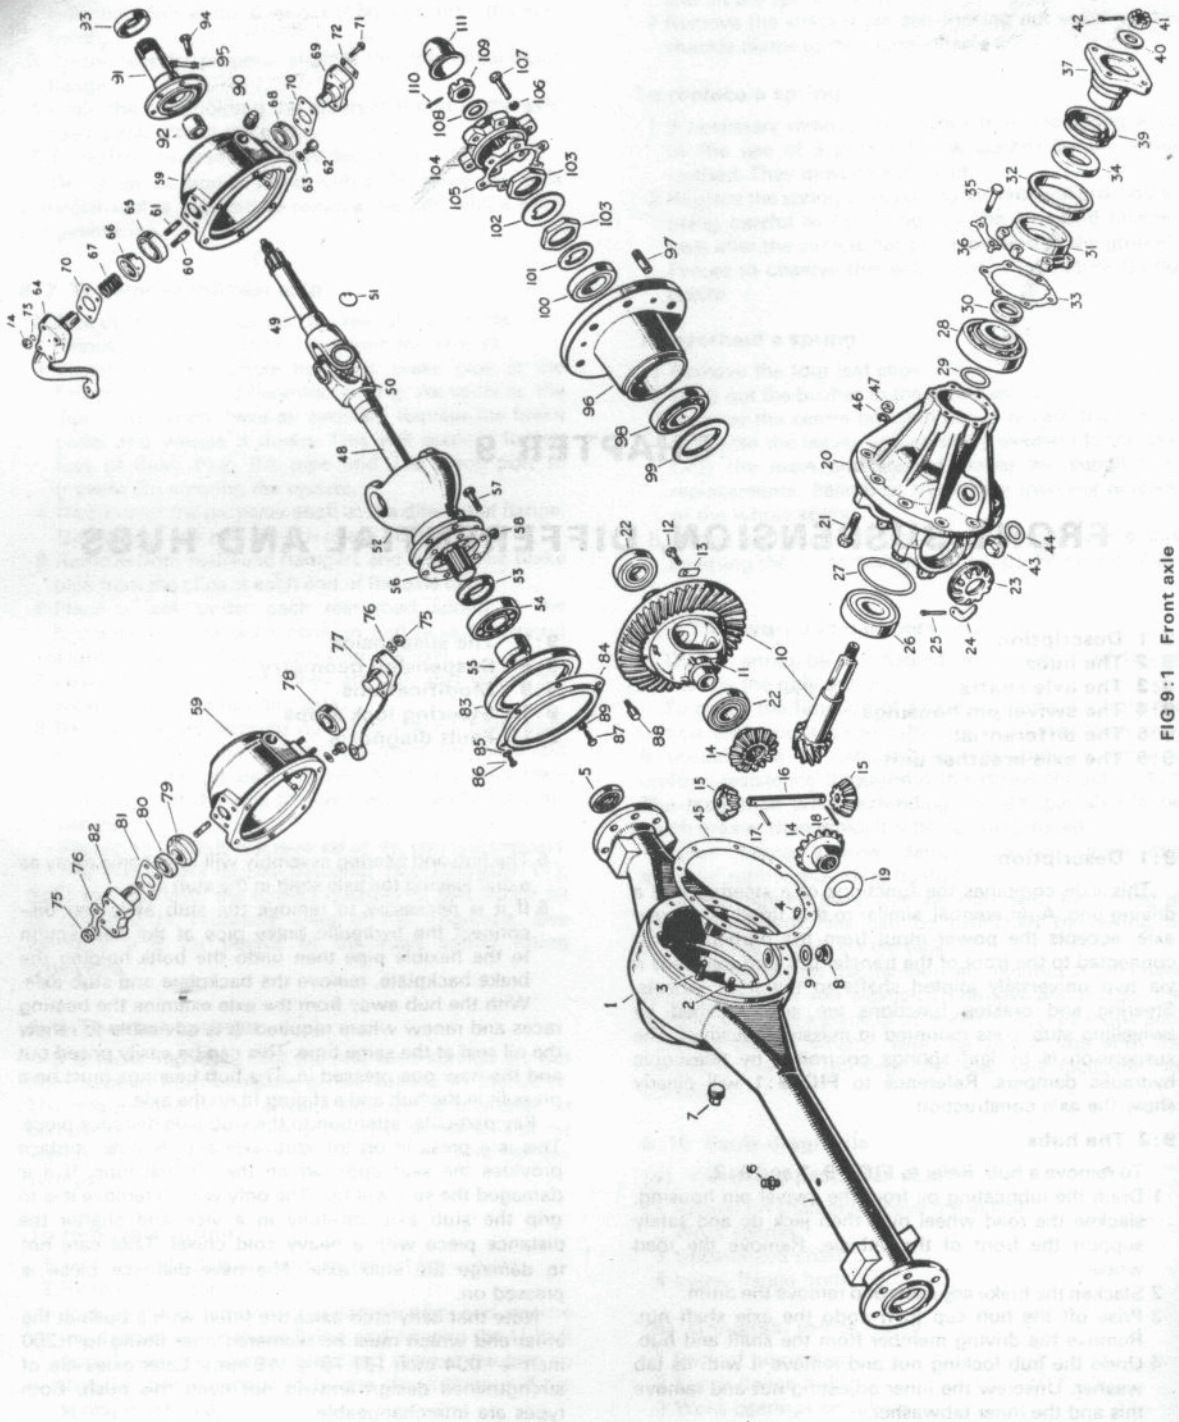

FIG 9:1 Front axle
This axle combines the functions of a steering and a driving unit. A differential, similar to that fitted to the rear axle, accepts the power input from the propeller shaft connected to the front of the transfer box and transmits it via two universally jointed shafts to the front wheels. Steering and braking functions are accomplished by swivelling stub axles mounted in massive housings. The suspension is by leaf springs controlled by telescopic hydraulic dampers. Reference to **FIG 9:1** will clearly show the axle construction.
- To remove a hub. Refer to **FIGS 9:1** and **9:2**.
Key to Fig 9:1